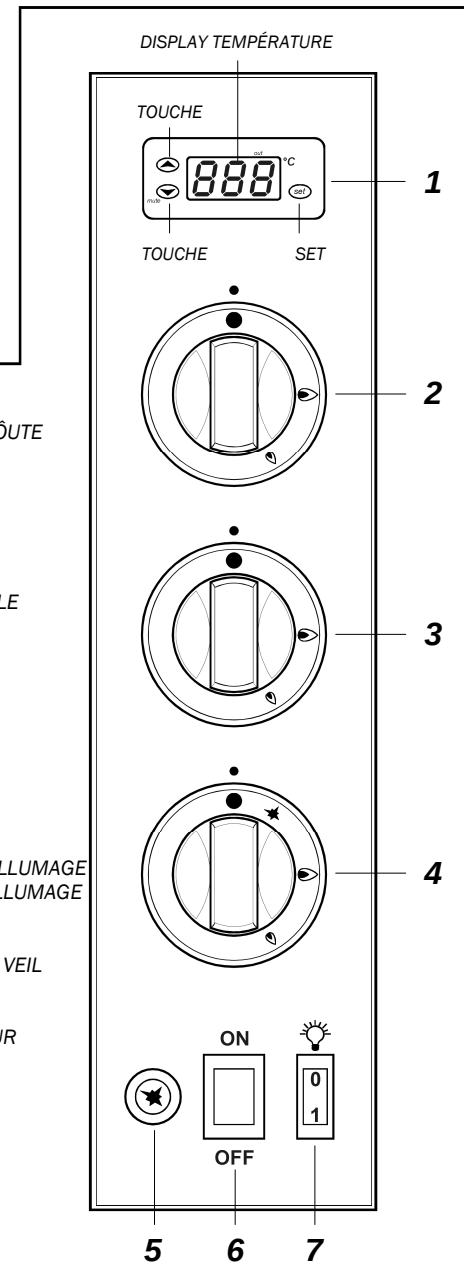

FIG.14 (PANNEAU DE CONTRÔLE)
- 6) TOURNER LA MANETTE DU ROBINET GÉNÉRAL (FIG.14-RÉF.4) DANS LA POSI-
- 7) OUVRIR LES ROBINETS DE VÔUTE (FIG.14-RÉF.2) ET DE SOLE (FIG.14-RÉF.3) EN
- 3) PRESSER L'INTERRUPTEUR GÉNÉRAL D'ALIMENTATION ÉLECTRIQUE (FIG.14-RÉF.6) LA LUMIÈRE VERTE S'ALLUME;
- 4) RÉGLER LA TEMPÉRATURE DE CUISSON EN PRESSANT EN MÊME TEMPS LE TOUCHE "SET" ET "+" OU "-" (FIG.14-RÉF.1);
- 5) TOURNER LA MANETTE DU ROBINET GÉNÉRAL D'ALIMENTATION DU GAZ (FIG.14-RÉF.4) SUR LA POSITION MAINTENIR LA MANETTE ENFONCÉE ET PRESSER EN MÊME TEMPS PLUSIEURS FOIS L'ALLUMAGE PIÉZOÉLECTRIQUE DE LA VEILLEUSE (FIG.14-RÉF.5).
AVEC LE PANNEAU DE CONTRÔLE (FIG.14) SITUÉ DANS LA PARTIE FRONTALE DROITE L'OPÉRATEUR PEUT EFFECTUER MANUELLEMENT LA MISE EN PLACE ET INTRODUIRE LES PARAMÈTRES DE CUISSON DU FOUR.